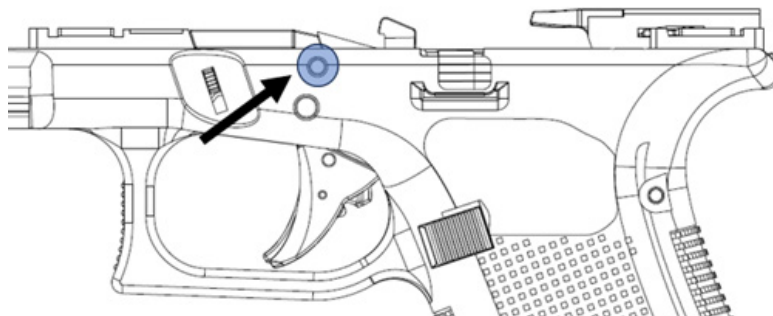

Figure 40: Locking Block Pin location.
a) Punch out, from left to right, the Locking Block Pin using the Glock Punch Tool (Figure 40).